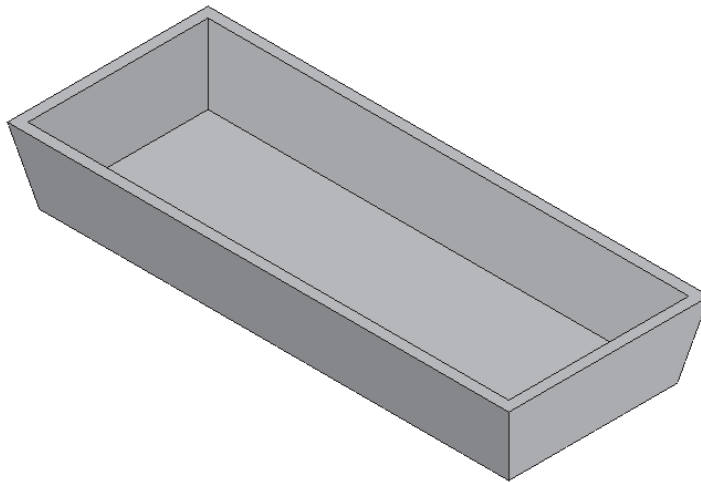

Figure 8-69 Model after adding the thin wall feature
- Add a thin wall feature to the model, refer to Figure 8-69.
4. Choose the **Preview** button and then choose **Finish** to create the thin wall feature. The model, after creating the thin wall feature, is shown in Figure 8-69.